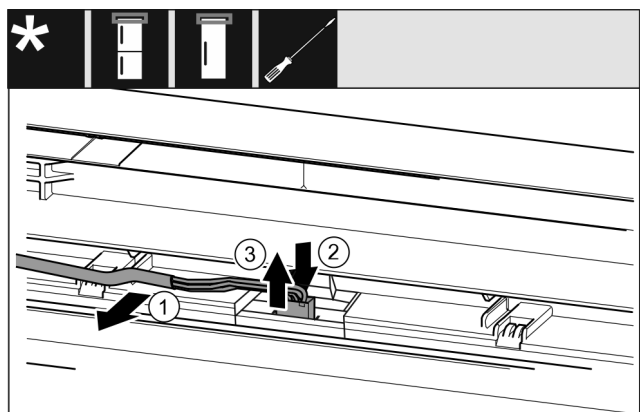

Fig. 21 Fridge/freezer combinations / freezers / refrigerators
- Release the cable Fig. 21 (1) from the guide in the door carefully.*
- Push the tab Fig. 21 (2) behind the plug backwards.*
- Pull the plug Fig. 21 (3) out upwards carefully.*